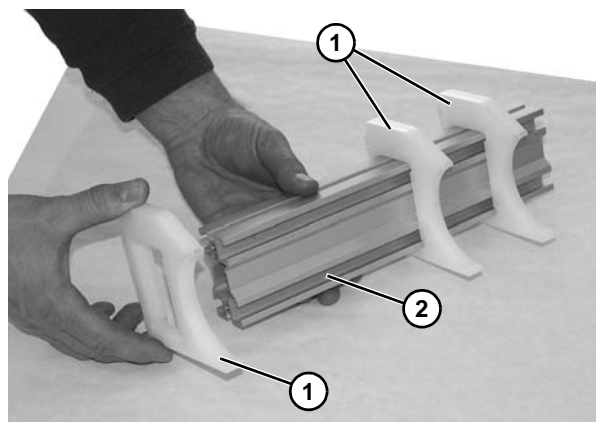

Figure 87
9. Remove gap filler plates (Figure 87, item 1) from crossmember (Figure 87, item 2).